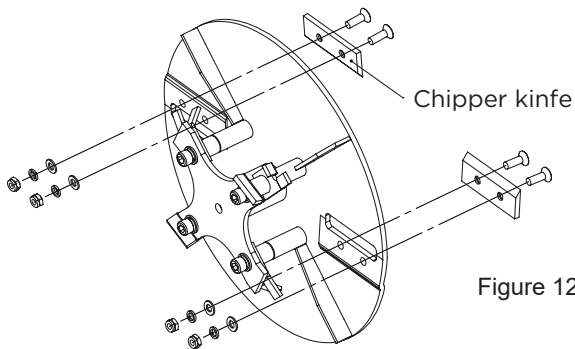

Figure 12
5. Using a hex wrench, remove the two socket head cap screws and the chipper knife. SEE FIGURE 12